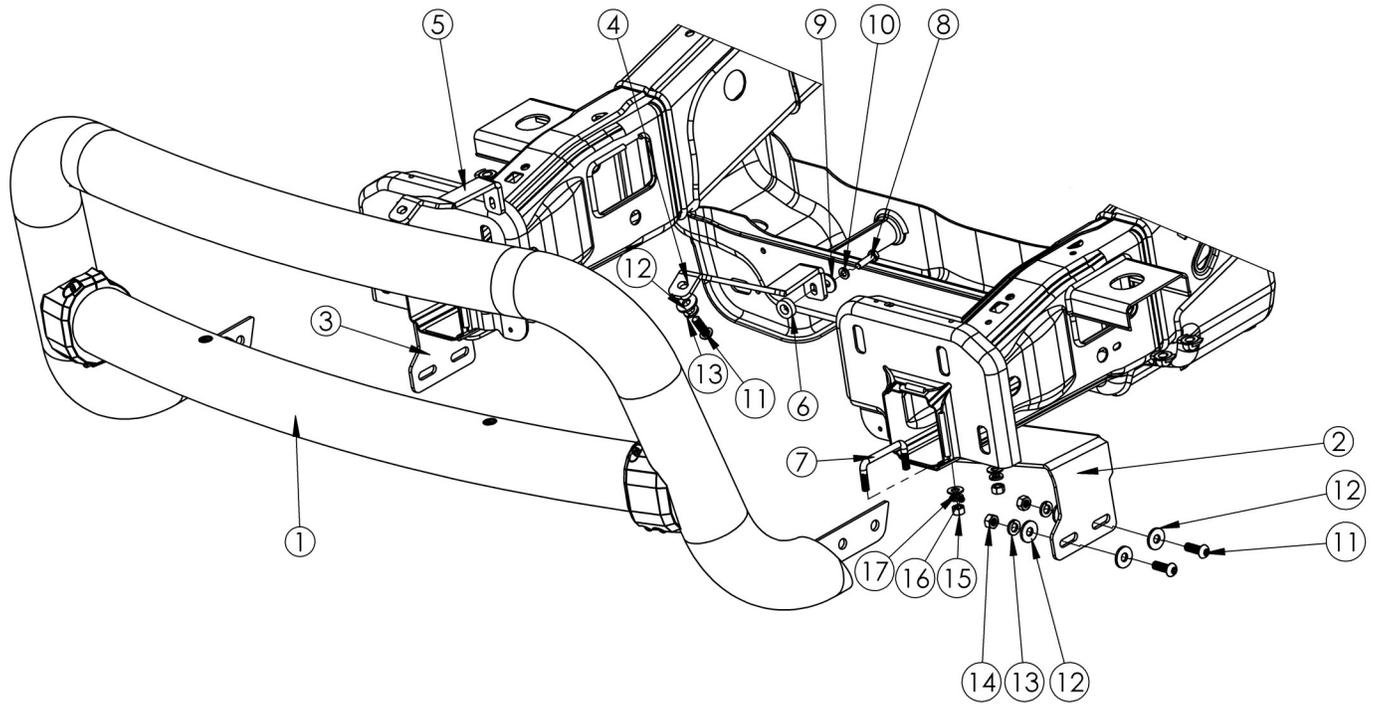

Fig. 14
8. With assistance, hold the bull bar up in position on the inside of the lower mounting brackets. Loosely attach the bull bar to the brackets using (4) M10 button head cap screws, (8) M10 flat washers, (4) M10 split lock washers, and (4) M10 hex nuts. Refer to **Figure 14** for a picture showing the hardware assembly.